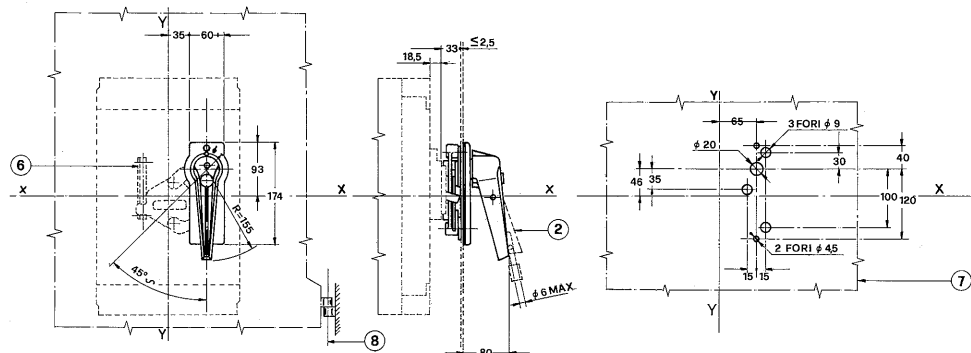

Fig. 26
- a - remove the breaker cover (§ 5.2.) and replace the standard lever with the shorter one (1) supplied with the mechanism
- c - secure the piece (2) on the breaker cover with screws (3) and washers (4), as shown on the figure
- d - install the breaker in the panel or enclosure taking care that the clearance between the door and the breaker is that indicated on fig. 26
- e - drill the door to template on fig. 26
- f - secure the transmission group (5) with gasket (6) to the door with screws (7) split washers (8a) and flat washers (8b)
- g - fit the door flange (9) with screws (10) and washers (18)
- h - fit the handle (11) on shaft (12) taking care that pin (13) enters the proper slot